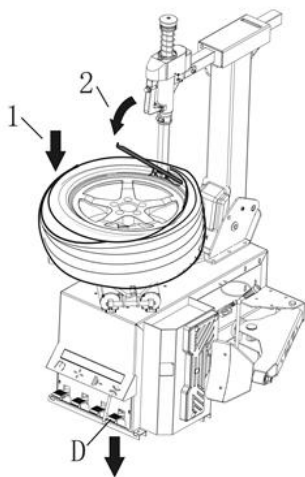

Fig. 17
- With the lever inserted between the bead and the front section of the mounting head, move the tire bead over the mounting head (fig. 17).
- With the lever (fig. 17) held in this position, rotate the turntable in a clockwise direction by pressing pedal D (fig.17) down until the tire is completely separated from the wheel rim.
- Keeping the tire bead pressed down into the wheel rim channel with your hands, press down on the pedal A(fig.17) to rotate the turntable clockwise. Continue until you have covered the entire circumference of the wheel rim (fig.21A).